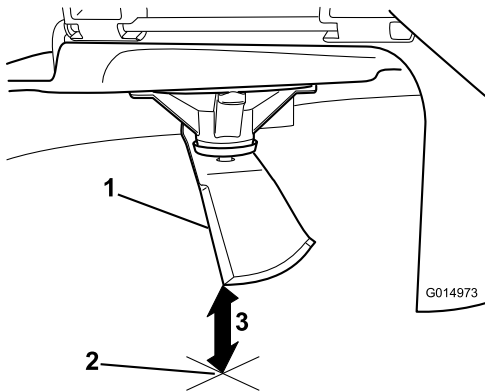

**Figure 89**
4. Rotate the same blade 180 degrees so that the opposing cutting edge is now in the same position (Figure 89).